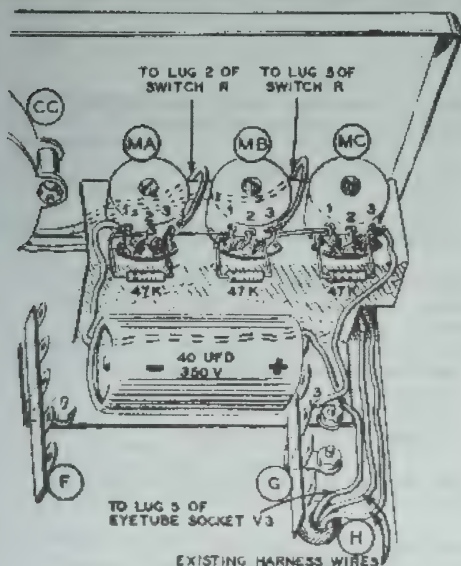

Figure 1
Refer to Figure 1 for the following steps.
- () Bend the control lugs 90 degrees as shown in Figure 1.
- () R39. Clip one lead of a 47 K Ω resistor to 1" and the other lead to 1/2". Pass the 1" lead through lug 1 (NS) to lug 2 (S-1) of control MC. Connect the other lead to lug 3 of MC (NS).
- () R38. Clip both leads of a 47 K Ω resistor to 1". Pass one lead through lug 3 of control MB (NS) to lug 1 of control MC (S-3). Pass the other lead through lug 1 (NS) to lug 2 (S-1) of control MB.
Refer to Pictorial 8 of the IT-11 and Figure 1 of the Modification Kit sheet for the following steps. Place the leads through the chassis cutout near RANGE switch P.